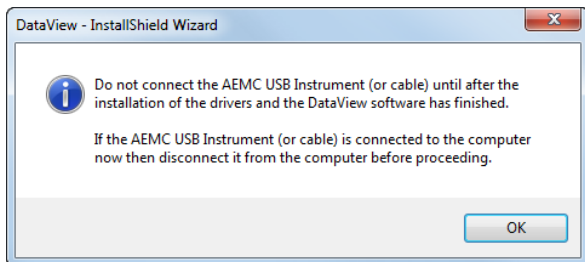

Figure 5-3
13. If the instrument selected for installation requires the use of a USB port, a warning box will appear, similar to Figure 5-3. Click **OK**.